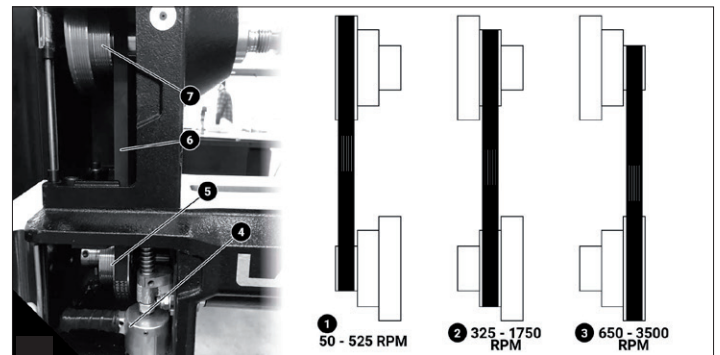

Fig. 13
**Fig. 13: Changing Speed Range. (1) Low Speed Range: 50-525 RPM. (2) Mid Speed Range: 325-1750 RPM. (3) High Speed Range: 650-3500 RPM. (4) Belt Tension Cam Handle. (5) Drive Pulley. (6) Groove Poly-V Belt. (7) Driven Pulley.**